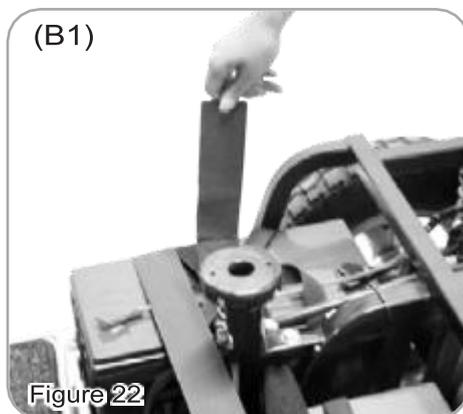

Figure 22
3. Release hook-and-loop fastener (B1) (Figure 22).